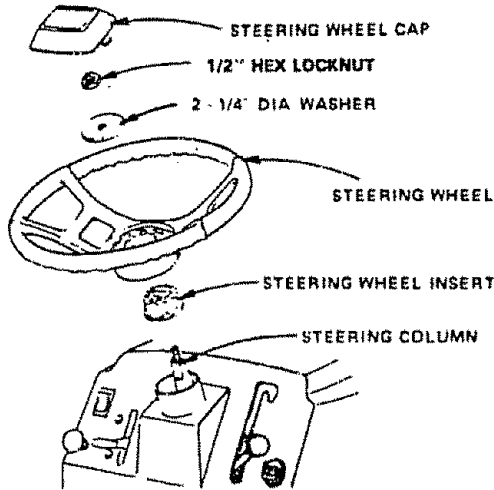

FIGURE 3
- a. Use a 3/4" wrench to remove hex nut, and 2 - 1/4" diameter washer (shown full size below) from steering column (Fig. 3).
- c. Secure steering wheel to steering column using 2-1/4" diameter washer and hex nut (Fig. 3). Torque to 50 ft - lbs.